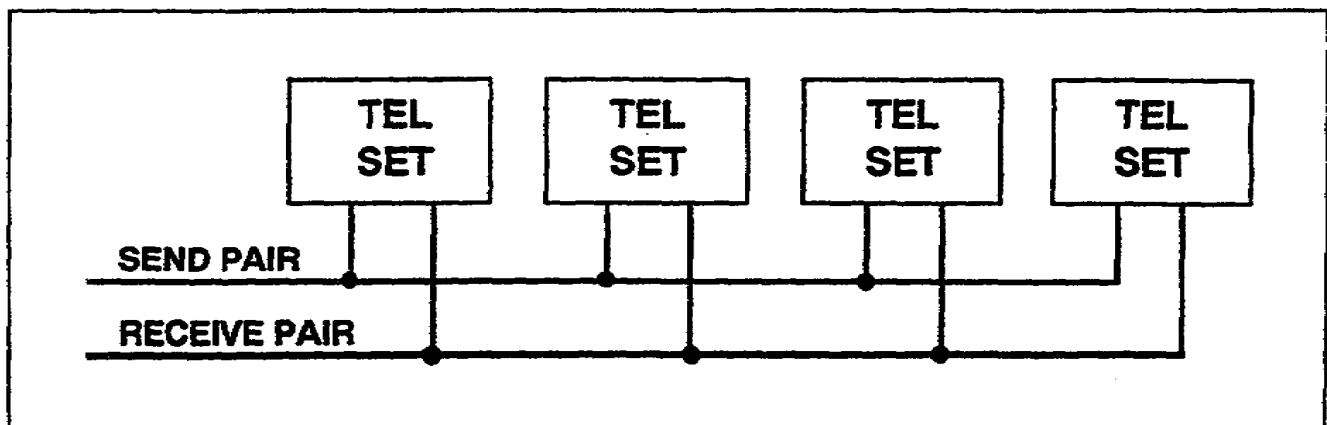

Figure 1-7. Cabling for extension operation.
24. Extension service is available with this telephone. The first and succeeding telephones, up to a maximum of four, are connected to the man line in the same manner as the original. (See Figure 1-7.)